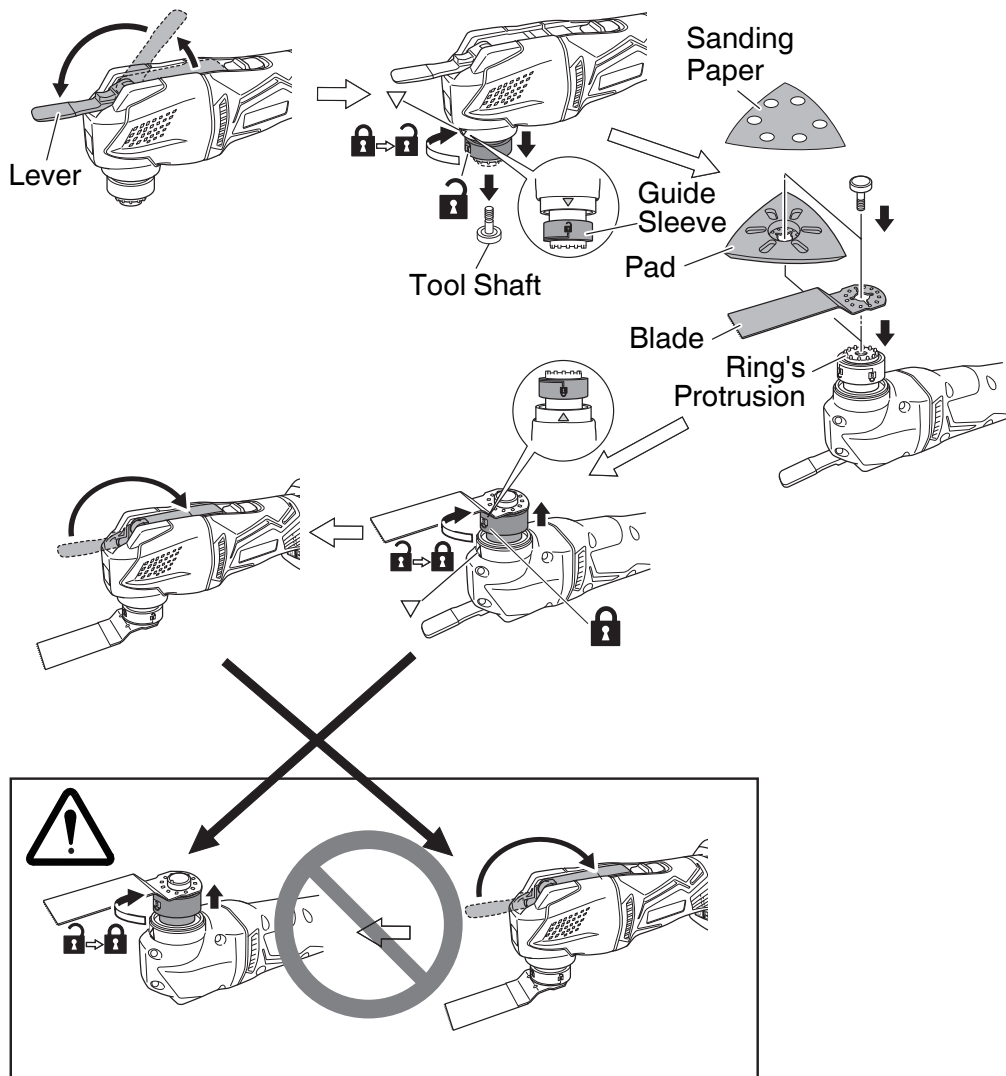

Fig. 5
5. Changing application tools (**Fig. 5**)